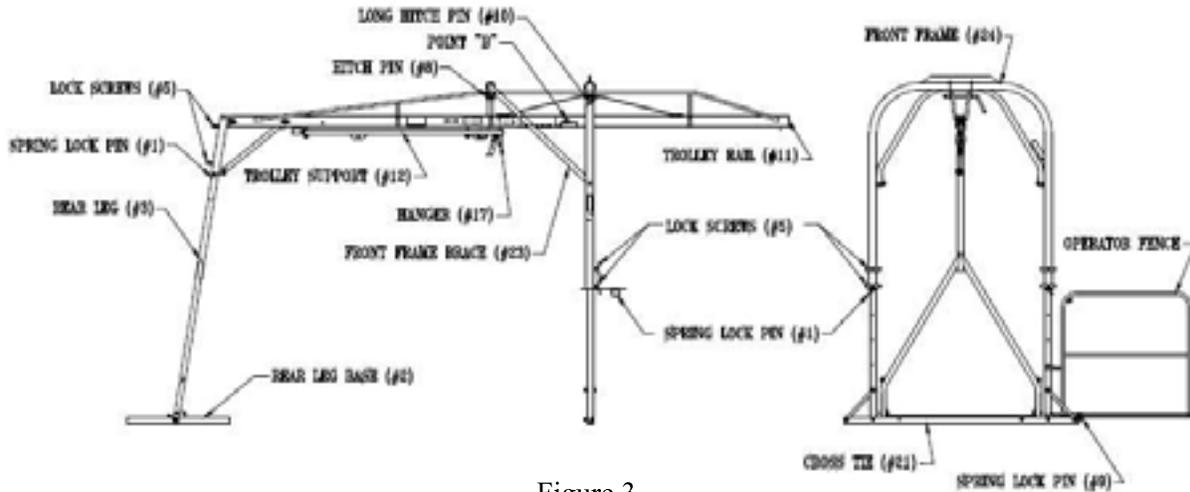

Figure 3
<p>Procedure</p> <ol style="list-style-type: none"> 1. Conduct a pre-starting inspection <ol style="list-style-type: none"> a. Determine that the roof deck can support the intended loads in hoisting and material handling in addition to the weight of the counterweight b. Ensure all structural members of the hoist are free of defects and damage that may affect the integrity of the hoist c. Read the safety labels for warning of potential hazards that can cause serious injury. If a label becomes hard to read consult with your supervisor to have it replaced d. Thoroughly read and understand the manufacturer’s instruction manual 2. Before raising to roof level <ol style="list-style-type: none"> a. Refer to Figure 3. Insert short hitch pin #6 through the trolley rail at point “B” to prevent the trolley support #12 from rolling during transport and handling b. This pin should remain in place until the power unit is ready to be installed on hoist c. Hoist installation and setup cannot proceed until all necessary parts and equipment have been raised to the roof deck. Use a hoist beam, swing beam, or freight elevator for this purpose
- h. Refer to Figure 3. Raise the front frame brace #23 and tie temporarily to the top of the front frame assembly #24